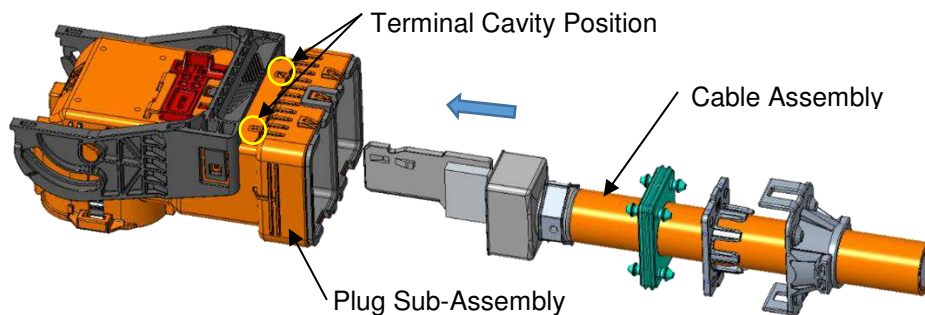
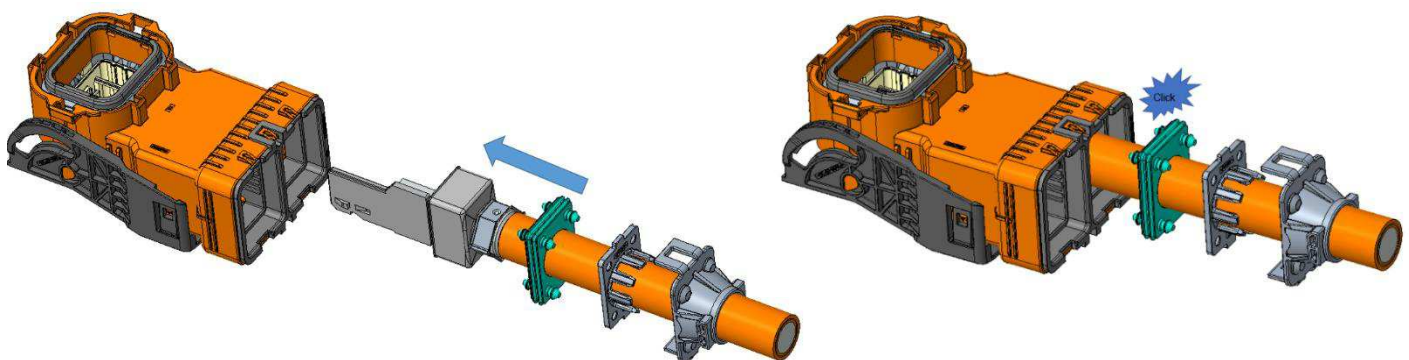

Figure 9A: Cable Assembly Cavity -1 insertion
Figure 9B: Plug Assembly orientation for Cable Assembly insertion.
- A1. Table 2 Dim Y and Z updated. Section 3.6 step 8, Figures 9A and 9B updated. Section 3.6 steps 9-12, figures and information updated. Figures 18 & 19 updated. Caution note added to 3.6 step 5. Section 3.6 step 7, 5th bullet point added. Section 3.8 step 5 updated, Figures 21a and 21b added.
8. As shown in Figure 9A, identify the cavity ID on the plug sub-assembly and prepare to install the corresponding welded harness from step 6. Before installing, orient the plug sub-assembly and harness as shown in Figure 9B. Keeping the plug sub-assembly in this orientation, install the harness until it is fully locked as shown in Figure 9B. Verify that the cable assembly is completely installed by gently pulling back on the cable.